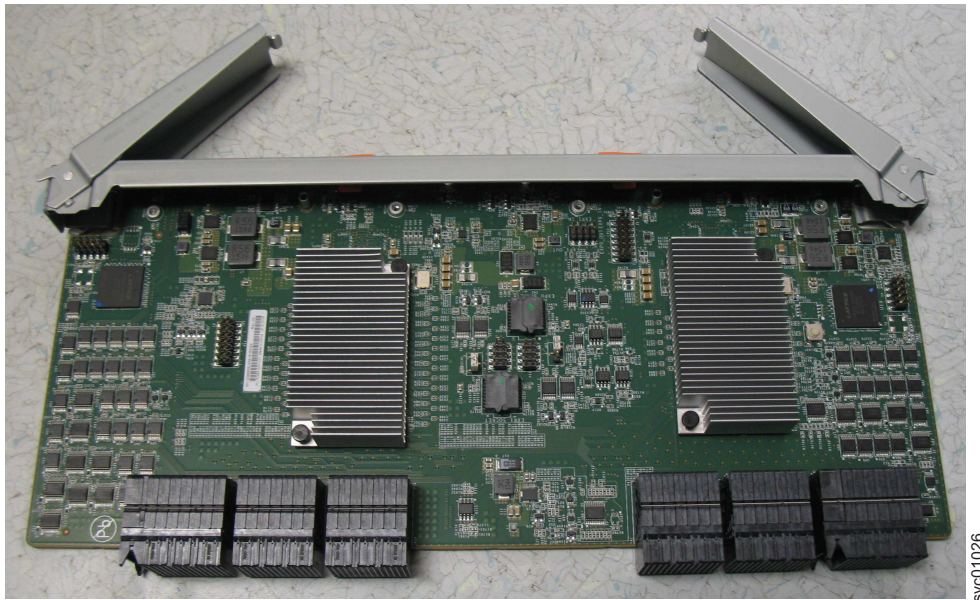

Figure 114. Open the secondary expander module handles
3. Rotate both handles on the new secondary expander module to an open position, as shown in Figure 114.